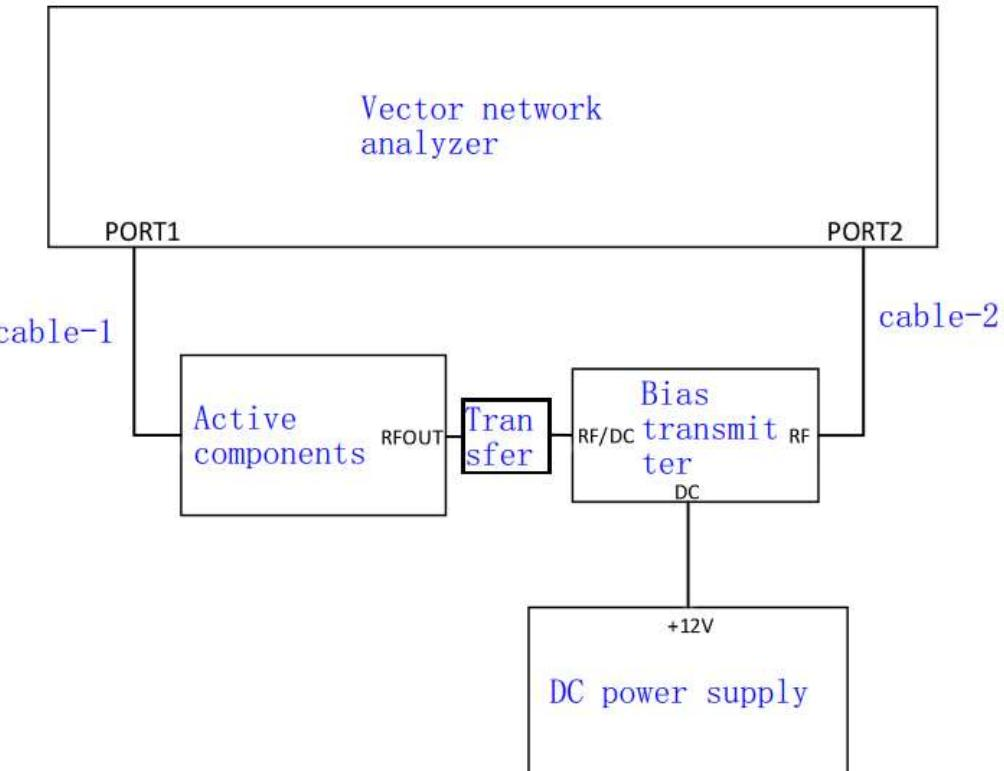

Figure 3: LNA Gain Test schematic
- 2) As shown in Figure 3, connect the DC stabilized power supply and the low noise amplifier to be tested through a feeder, power on and work, and supply 5V;